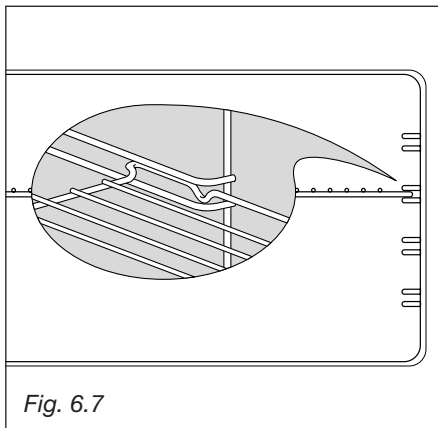

Fig. 6.7
- Slide the tray and rack into the runners (Fig. 6.7).
The rack must be fitted so that the safety catch, which stops it sliding out, faces the inside of the oven (fig. 6.7).